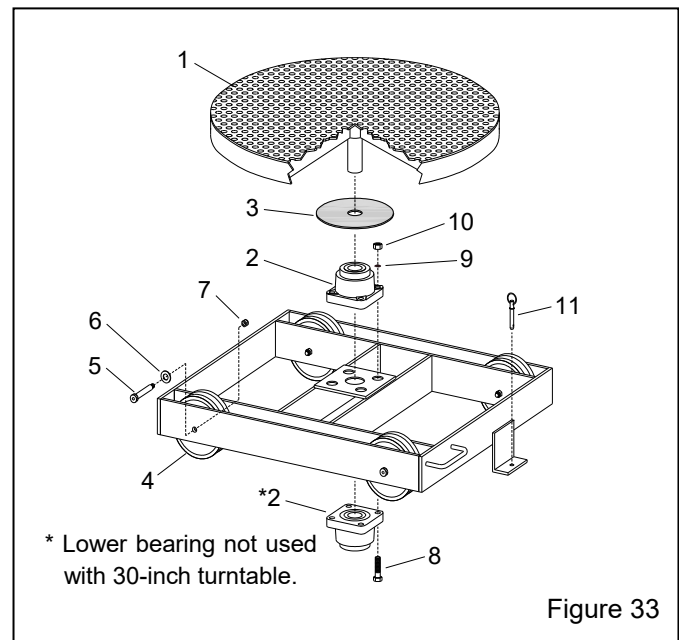

Figure 33
**Turntable with Workcar, 500 lb – 2000 lb Capacity Figure 33**